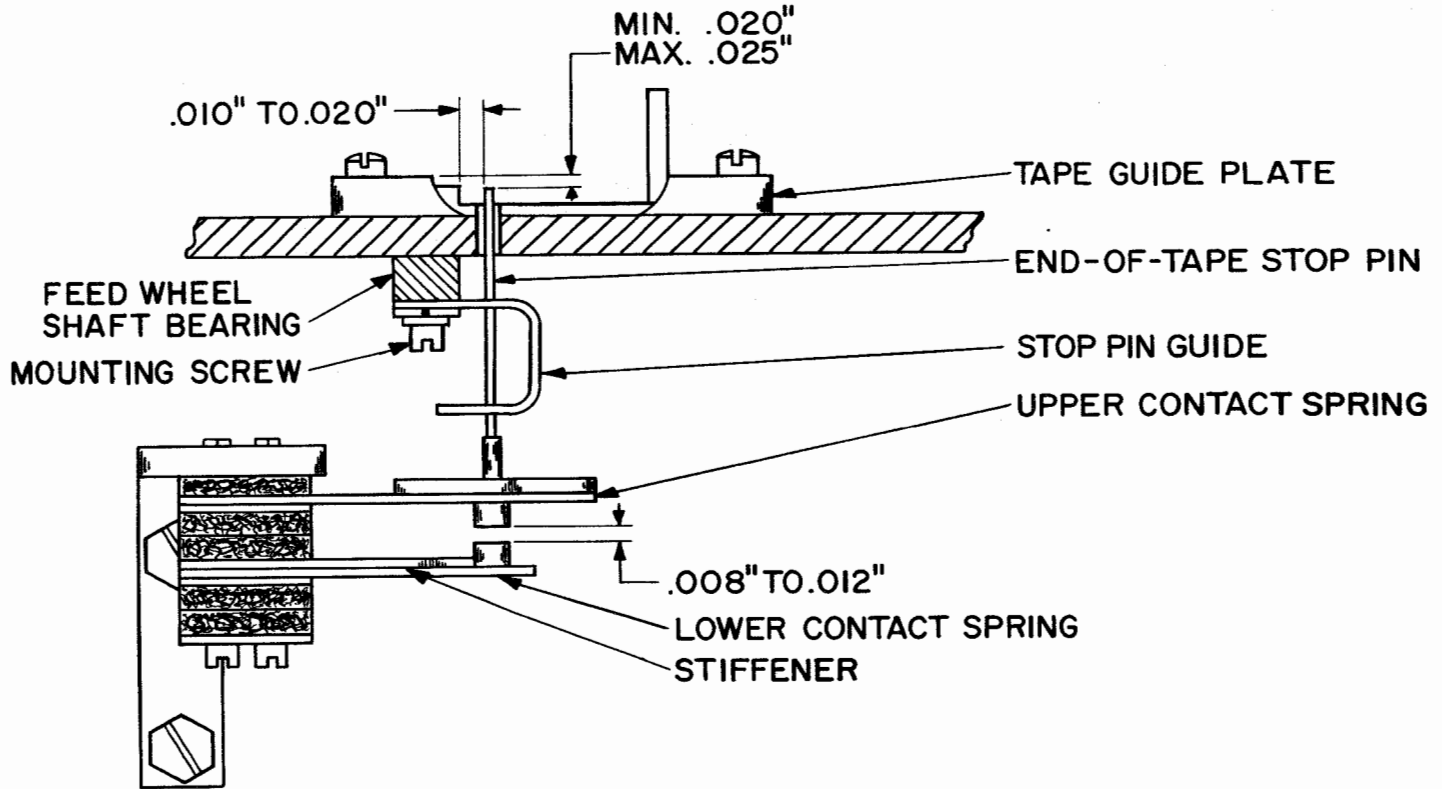

Figure 38
(a) If the unit is equipped with the old-style (TP97445) retainer lid and the old-style (TP97468) tape-guide plate, there shall be minimum 0.010, maximum 0.020 inch clearance between the end-of-tape stop pin and the shoulder of the tape-guide plate when the side play of the pin is taken up in a direction to make this clearance a minimum. (See Figure 38.)
(c) If the unit is equipped with the old-style (TP97445) retainer lid and the new-style (TP111627) tape-guide plate, there shall be minimum 0.010, maximum 0.020 inch clearance between the end-of-tape stop pin and the side of a straightedge which is placed on the front shoulder of the tape-guide plate so that it lines up with the inner edge of the shoulder. (See Figure 38.)
10.02 End-of-tape Stop-pin shall be minimum 0.020, maximum 0.025 inch from straight-edge laid across the top of the tape guide plate. (See Figure 38.)
10.03 Contact Gap shall be minimum 0.008, maximum 0.012 inch when the lower contact spring is resting against its stiffener and the tape stop pin is not depressed. (See Figure 38.)